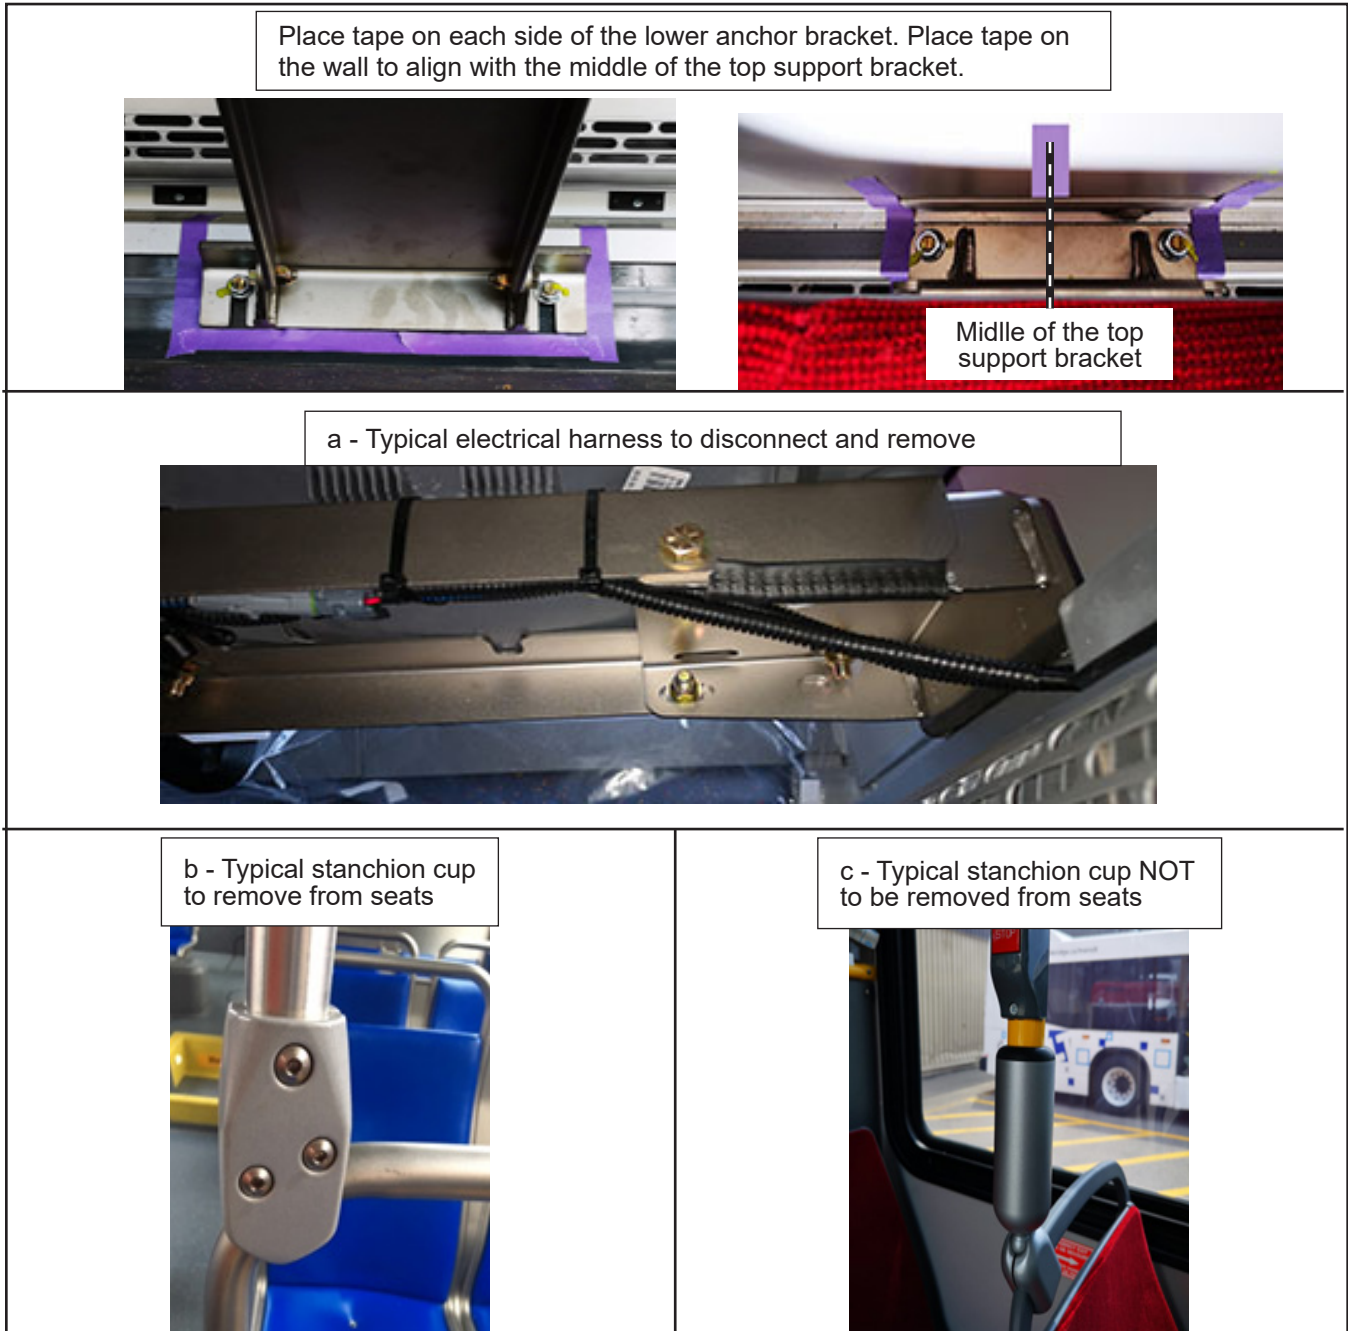

Figure 10 - Steps to Perform Before Seat Removal
- 2.1. For all seats affixed to the defective upper anchor rail, place tape on each side of the lower anchor bracket. Place tape on the wall to align with the middle of the top support bracket. See Figure 10.,
- a. If required, disconnect any electrical harness connected to an electrical device on the seat frame and remove the tie wraps. See Figure 10.
- b. If a seat has a stanchion bolted to the backrest, remove the anchor cup from the backrest. Retain the cup and hardware. Do not remove the stanchion. See Figure 10.
- c. If a seat has a cup-style stanchion, do not remove the stanchion cup; the stanchion can be disconnected when the seats will be lowered. See Figure 10.